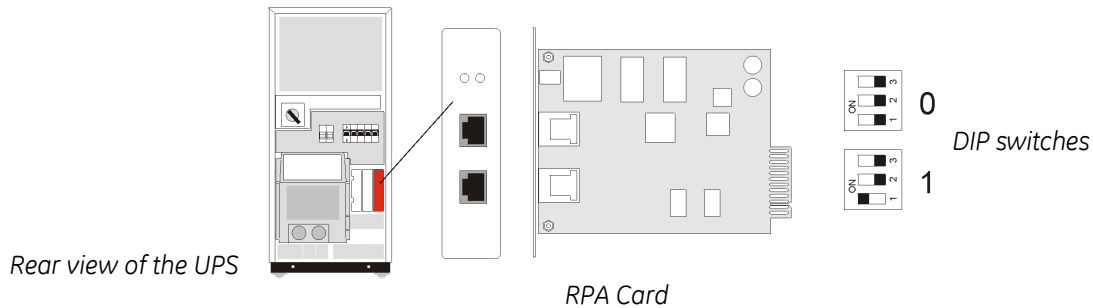

Figure 18. Appointing a unique number to each UPS in the system on the RPA card
- set the dipswitch to the appointed number (fig. 18)